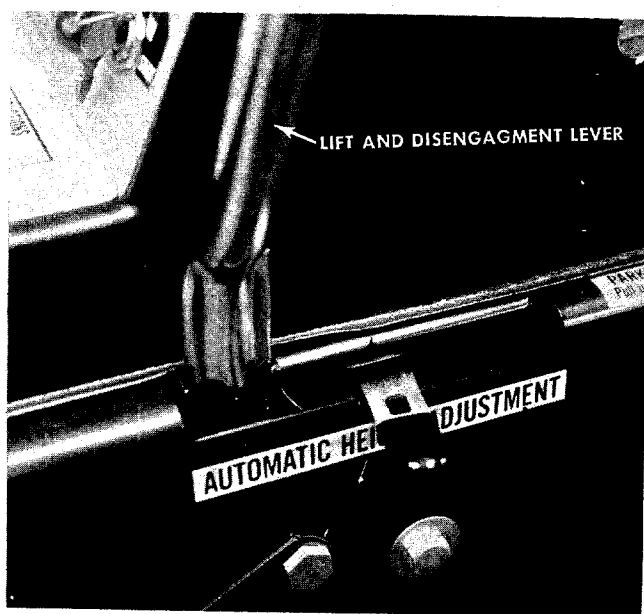
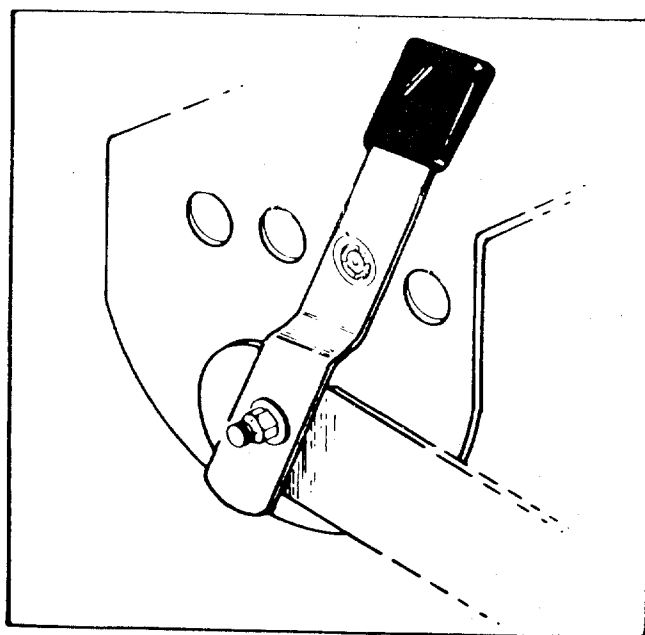

FIGURE 10. HEIGHT OF CUT SETTINGS
FIGURE 11 WHEEL HEIGHT ADJUSTER
**Recoil Model.** The key must be turned to the ON position before you pull the recoil handle to start the engine. Remove the key when the mower is not in use. Turn the key to the left to the OFF position to stop the engine. See figure 10.
The engine will not start unless the lift and disengagement lever is in the disengaged position. See figure 10.
**Height of Cut Stop.** See figure 10. Lift the stop and set it at the desired cutting height. Allow the lift and disengagement lever to come forward to rest against the height of cut stop.
**Wheel Height Adjuster.** Move the lever towards the wheel and set it in the desired cutting height position. See figure 11. Both wheels must be in the same relative position.
**To set the cutting deck in the full float position:** set the wheel height adjusters in the desired cutting height as indicated in figure 11. Set height of cut stop in the lowest position. See figure 10.